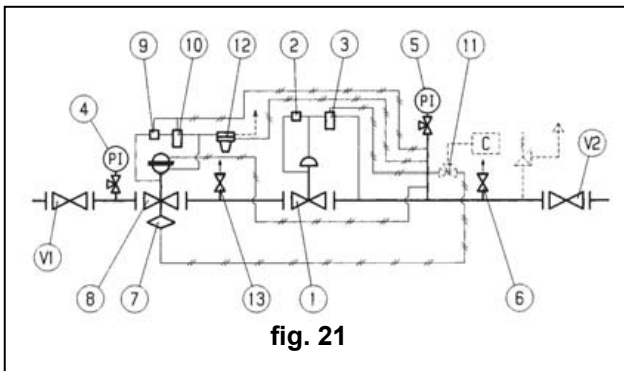

fig. 21
**5.5 COMMISSIONING THE REGULATOR APERFLUX 101 WITH REFLUX 819 IN LINE MONITOR WITH INCORP. SB/82 SLUM-SHUT AND ACCELERATING VALVE (fig.21)**